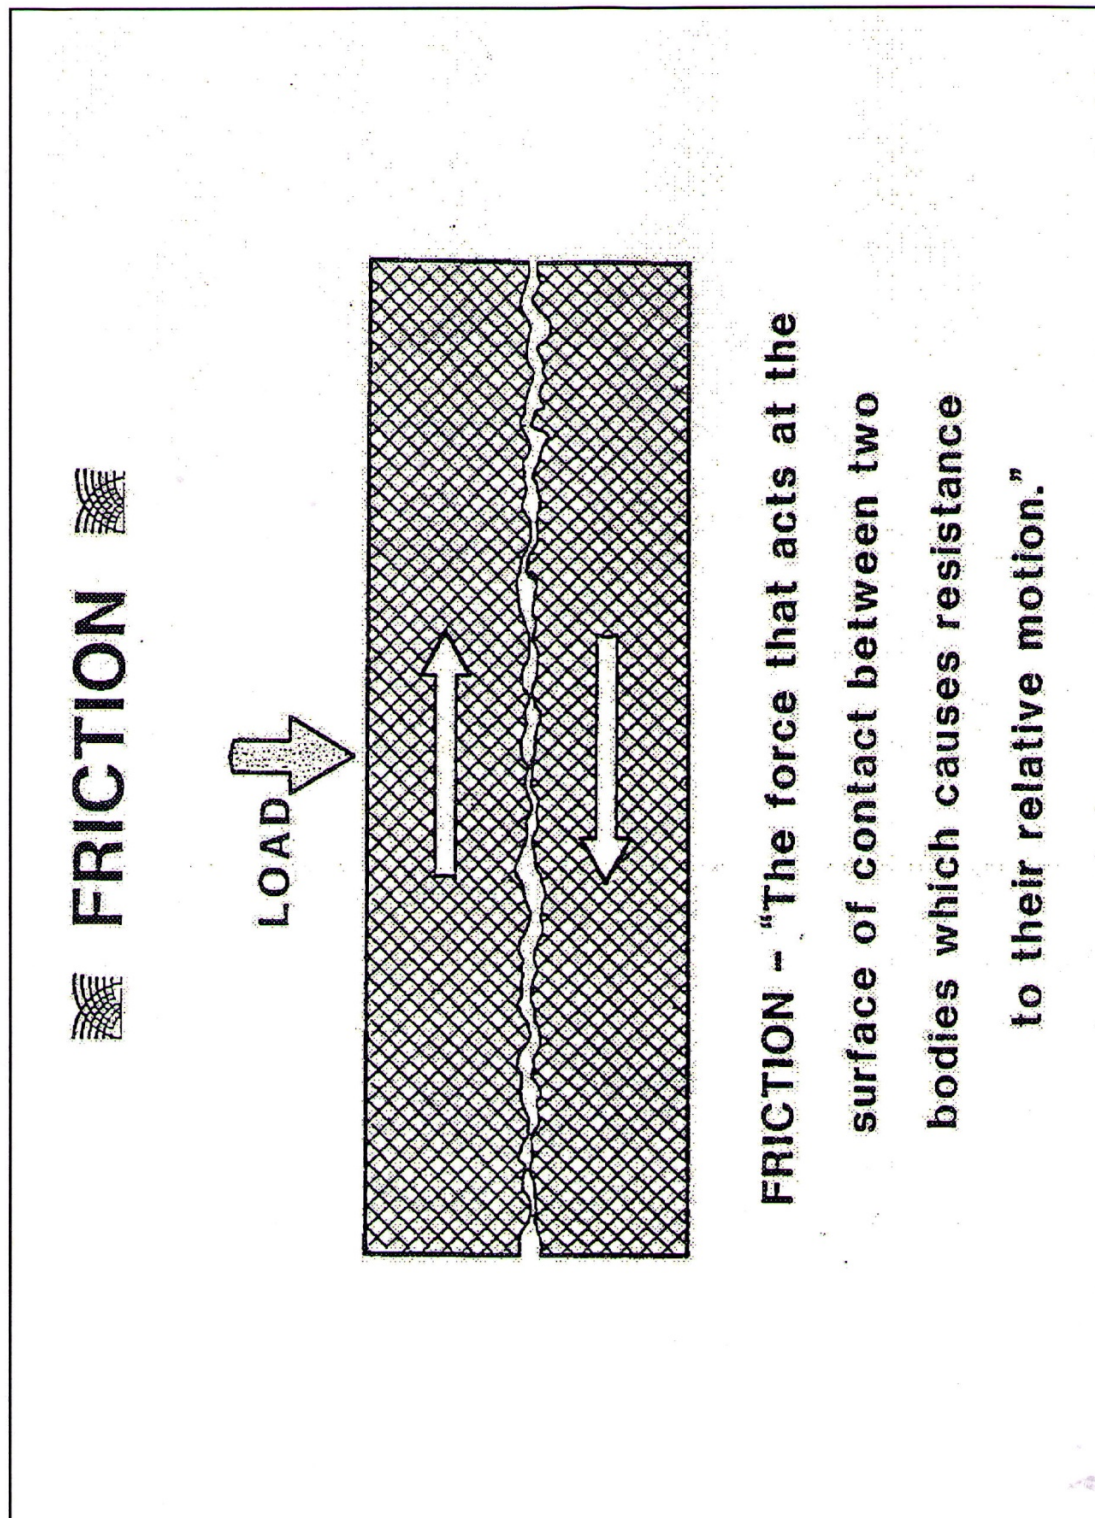

Figure 5-1 Frictional Surfaces
5.1.1.1 Frictional Surfaces - There is no such thing as a “perfectly” flat or smooth surface. If we take a microscopic look at two surfaces in contact, as in Figure 5-1, each surface consists of a series of peaks and valleys. As one surface attempts to move relative to the other, the peaks contact one another creating a resistance to the movement.